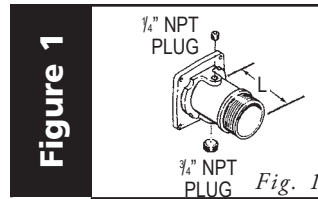

Figure 1
All dimensions shown in charts, unless otherwise noted, are the length (L) of the end cap. (Fig. 1)